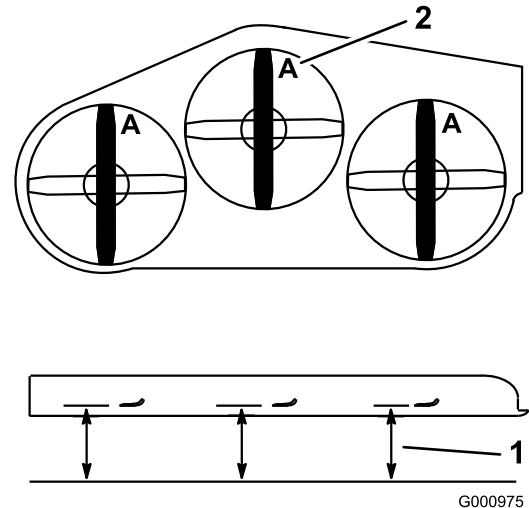

Figure 88
2. Measure from a level surface to the cutting edge, position **A**, of the blades (Figure 88).